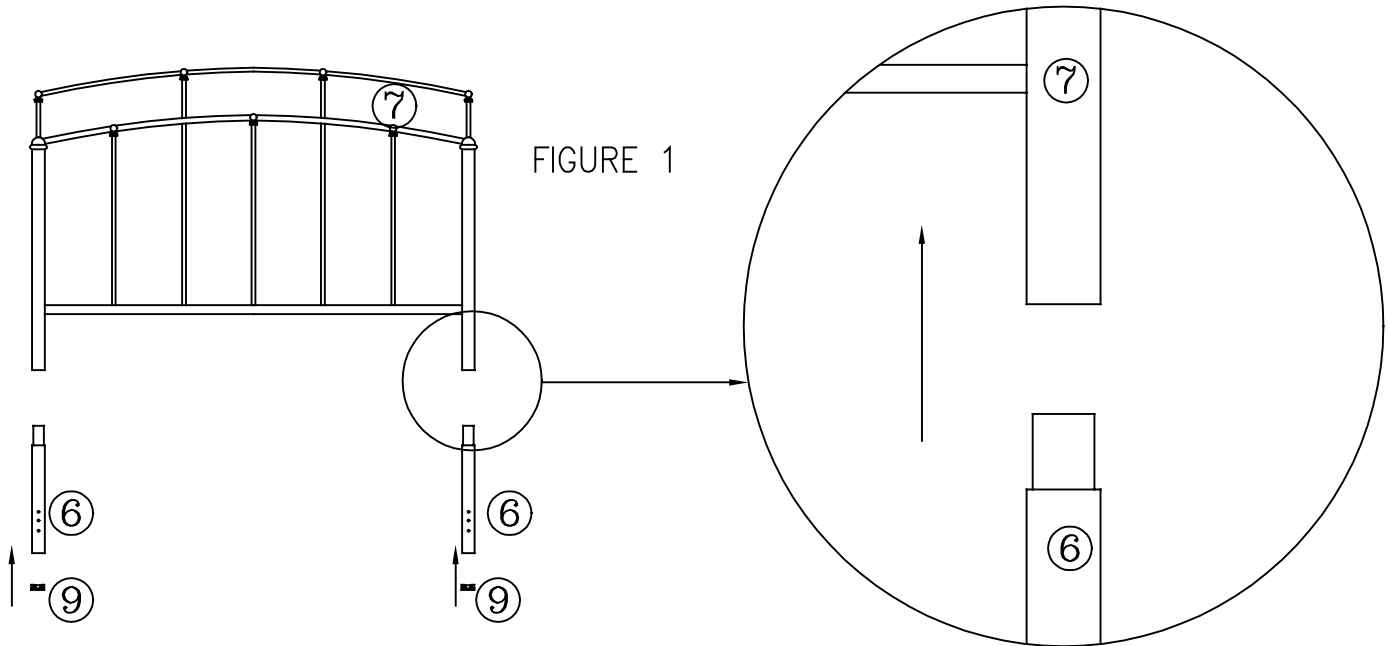
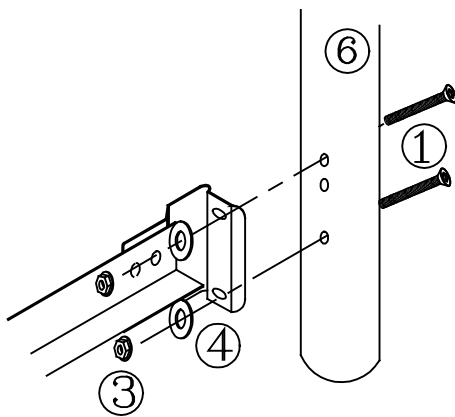
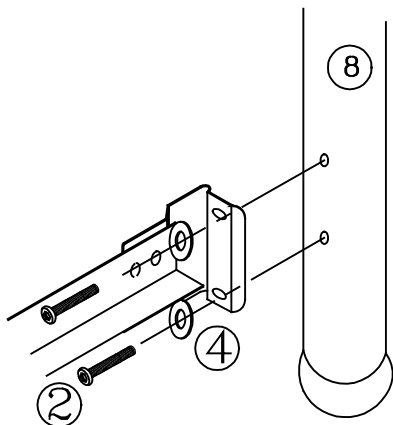

FIGURE 1
FIGURE 2
FIGURE 3
- Insert plastic glide (9) into bottom of leg extensions (6) and footboard (8) posts. (See Figure 1)
- Align top reduction of extension legs (6) with bottom of headboard posts. (See Figure 1) Make sure the 3 holes on extension legs are perpendicular to headboard panel.
- Now carefully insert extension legs (6) into bottom of headboard (7) posts.
- Place 2 screws (1) through holes located in leg (6). (See Figure 2)
- Place a flat washer (4) first and then a nut (3) on each screw. Hand-tighten, DO NOT TIGHTEN screws all the way.
- Position footboard panel and align holes in the post (8) with holes in the frame bracket. (See figure 3)
- Place flat washer (4) on each screw (2). Insert through bracket and into post. Hand-tighten, DO NOT TIGHTEN screws all the way.